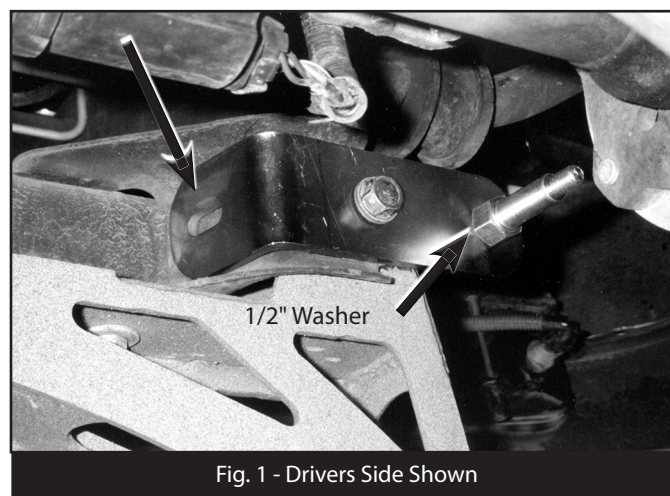

Fig. 1 - Drivers Side Shown
4. With the control arm bolt removed, install the outside stabilizer bracket on the OE crossmember with the tab inside the crossmember pointing toward the front of the vehicle. Fasten the bracket with the OE control arm bolt by installing it through the bracket and toward the front of the vehicle. Secure with OE nut and washer. Torque bolt to 125 ft-lbs. (Fig. 1)
5. Using the slotted hole in the bracket as a guide (Fig. 1), drill a 5/16" hole in the OE crossmember. Install a 3/8" self-tapping bolt in the hole and tighten securely.
7. Place a 1/2" washer onto the shock stud to space it away from the bracket and install in the outer hole of the stabilizer bracket, and tighten securely with provided hardware (Fig. 1).